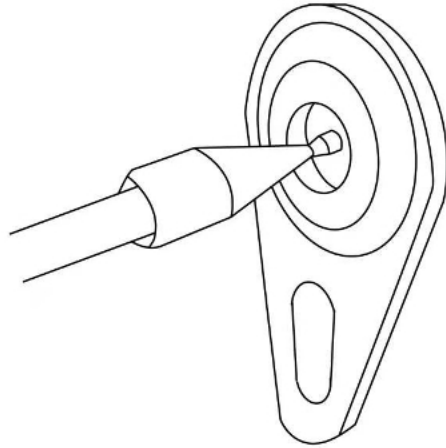

Figure 6-4 Adding grease
(2) Lubrication point injection method
Step 2: Add grease with a grease gun, as shown in Figure 6-4. The specific location and quantity of lubrication points are shown in Figure 6-2, 6-3 and Table 6-3;